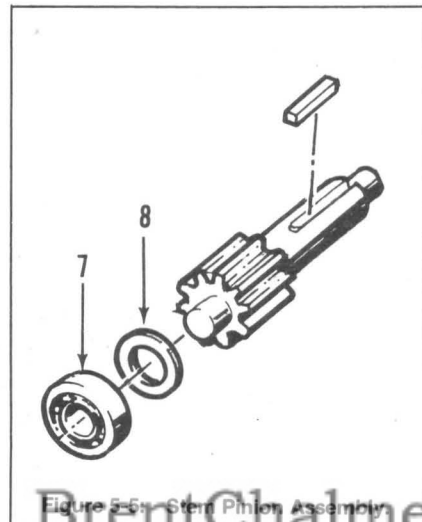

Figure 5-5: Stem Pinion Assembly.
5. Insert a 1/4-inch punch through the right side of the housing and use a hammer to drive the stem pinion shaft (5) and the key (6) to the left and out. Avoid damaging the bearing (7) in the right side of the housing. The bearing (7) and washer (8) in the left side of the housing will be attached to the pinion shaft. See Figure 5-5.
8. Use an arbor press to remove the bearing (7) and washer (8) from the stem pinion (5). See Figure 5-5.
9. Use a snap ring pliers to remove the (external) snap ring (9) that retains the fast speed pinion gear (11) to the bronze worm gear (10).
10. Place the worm gear (10) on an open vise so that the fast speed gear (11) is hanging down between the vise jaws. Then use a 1-inch diameter bar to tap the fast speed gear down and off the worm gear. Check to make sure the key (12) also came off with the fast speed gear.